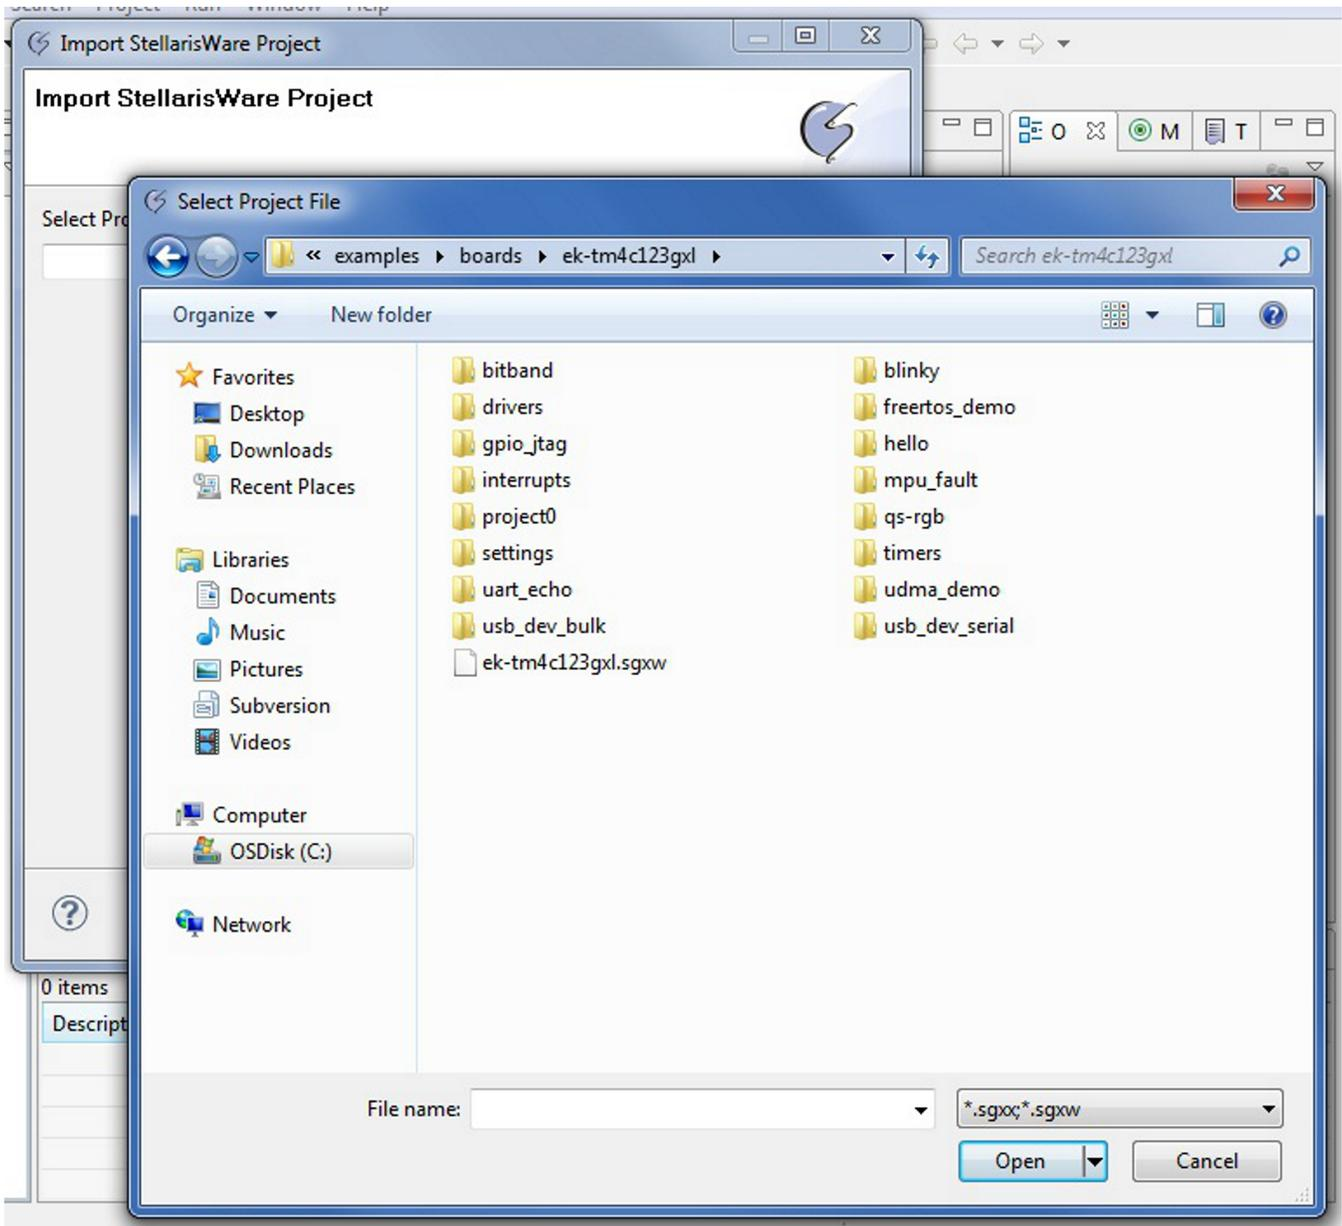

Figure 4.
4. Select the `<board>.sgxw` file and click Open (see Figure 4). The following example assumes that you are importing the `ek-tm4c123gxl` examples, but the same procedure applies to all TivaWare releases.